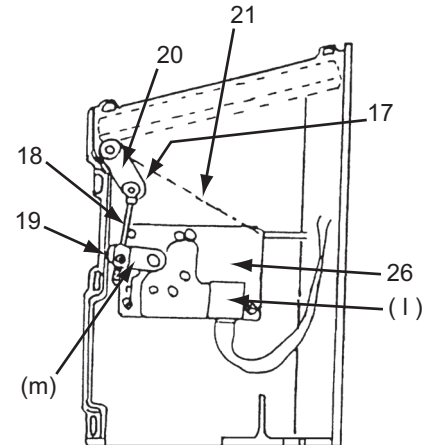

Figure-11
Do not release the rod clamp (19) and remove the rod (18) other than when replacing the actuator. If it has been removed, check to see the lever (m) is at location indicated in Figure-11. If it is not at that location, proceed as follows.
- Turn the power on and set to the "Inside Air Circulation" mode, (beware that the lever (m) rotates) wait for 10 seconds, and then check to see if the lever (m) is at the location shown in Figure-11 .
- Turn off the power and fix the rod (18) as explained in w of the previous section.